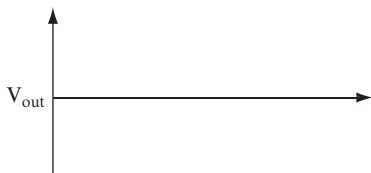

FIGURE 6.43
E. Combine the outputs to find the actual output. Draw the output waveform and label the voltage levels of the waveform on the blank graph shown in Figure 6.43.